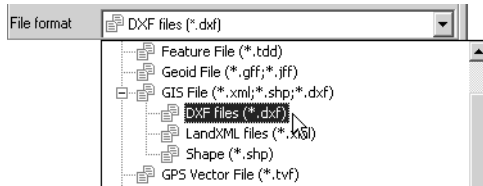

Figure 3-58. File Format List
- Select the file format (Figure 3-58).